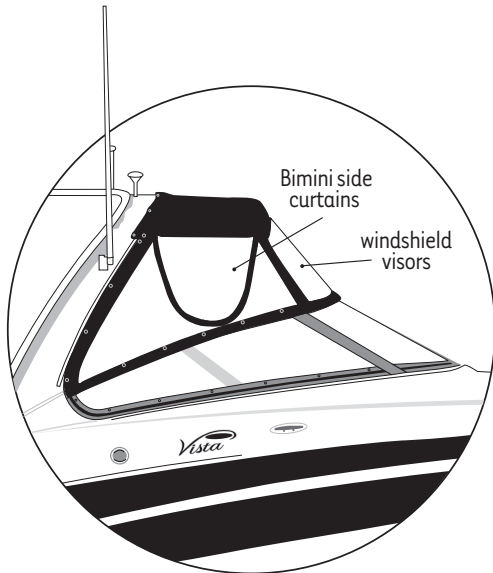

Figure O5: Bimini Side Curtain & Visor Installation
- 3) Attach the center visor piece to the bimini top, then each of the side visors - zipping each piece about 3" until all the parts are in position. See Figure O5.